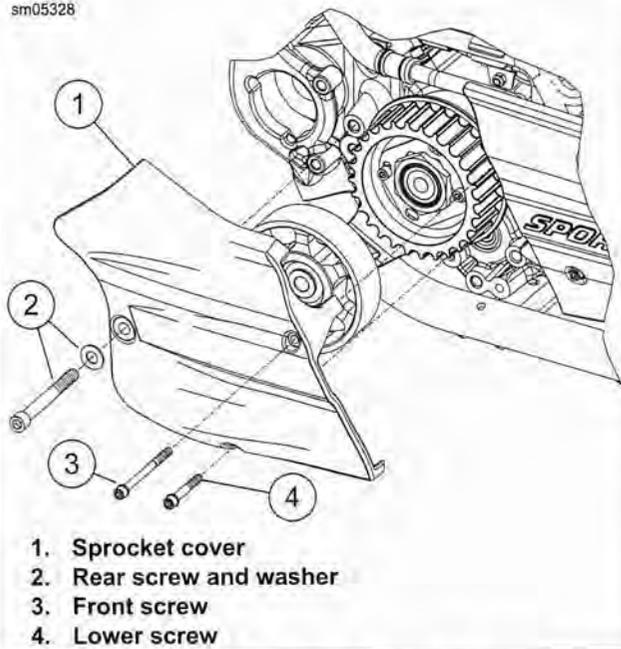

Figure 2-172. Sprocket Cover: XR 1200X
- b. **XR 1200X:** See Figure 2-172. Remove screw and washer (2) and screws (3, 4). Remove sprocket cover (1).
- b. Install exhaust pipe clamp bracket (4), washer (5) and screw (6). Tighten to 30-33 ft-lbs (40.7-44.8 Nm). Now tighten screws (2, 3) to 80-120 **in-lbs** (9.0-13.6 Nm).
- a. See Figure 2-172. Tighten screw (2) to 30-33 ft-lbs (40.7-44.7 Nm).